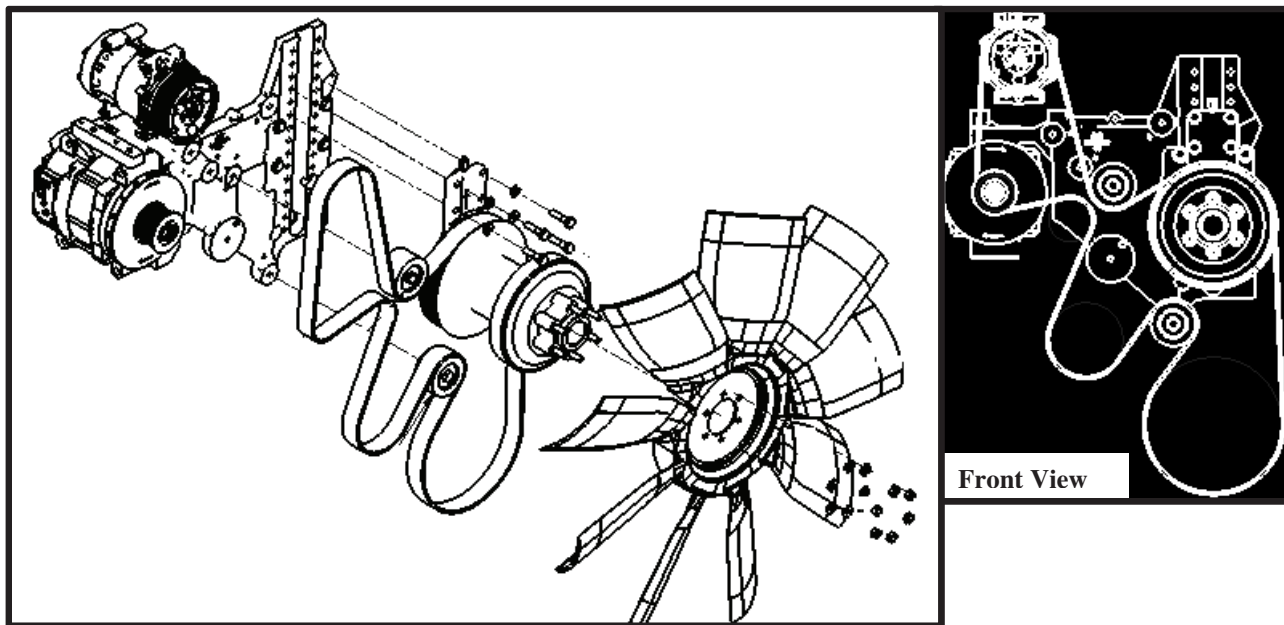

FIG. 6-1
15. Install the supplied six (6) fasteners and washers and torque in a crisscross pattern to 33-37 lbs. ft. Refer to FIG. 6-1.